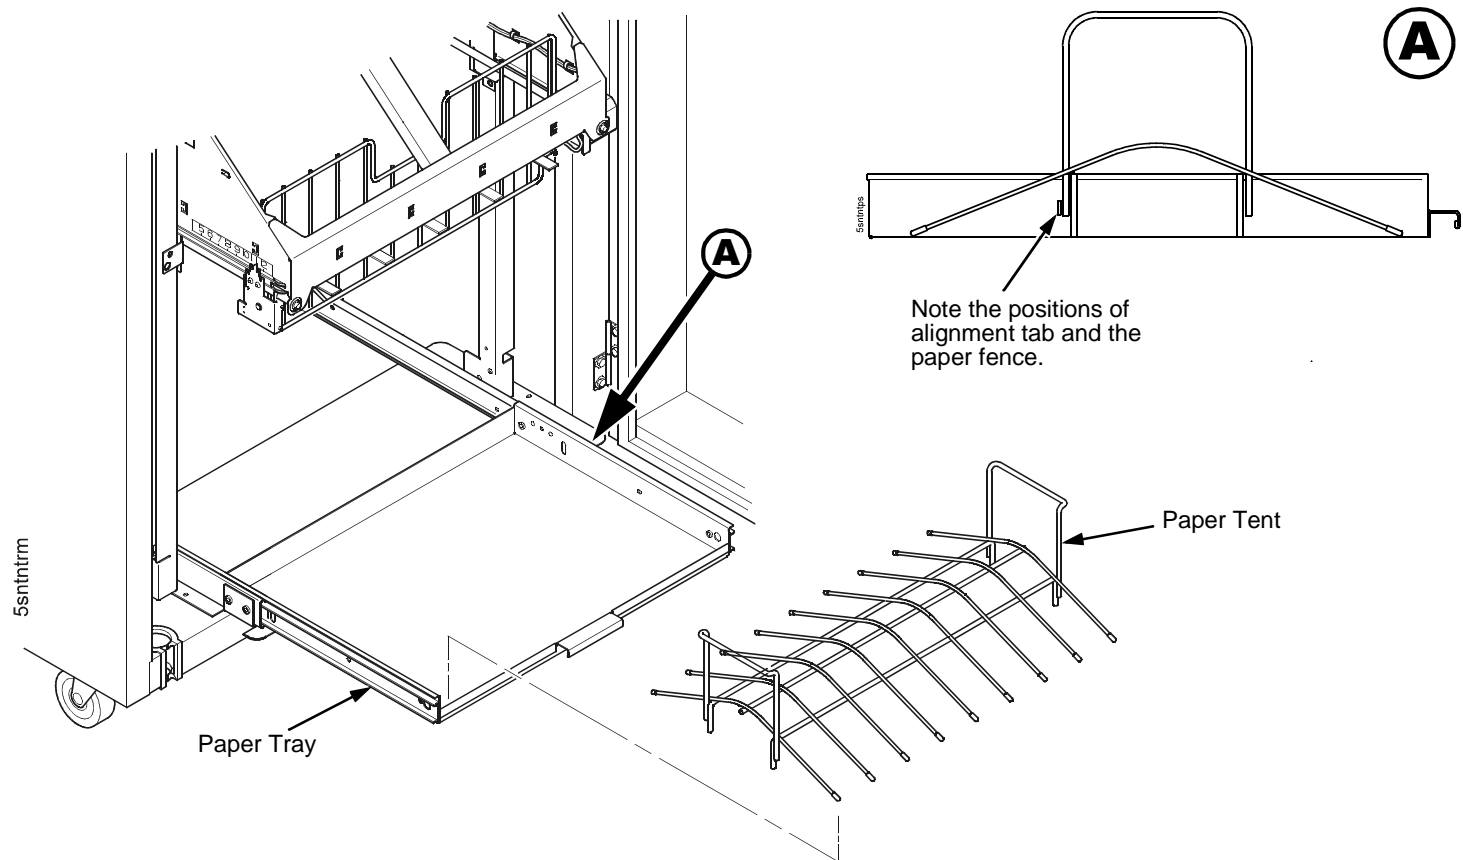

Figure 97. This figure shows how to install the paper tent in the paper tray.
39. Pull out the paper tray and install the paper tent. (Figure 97.)